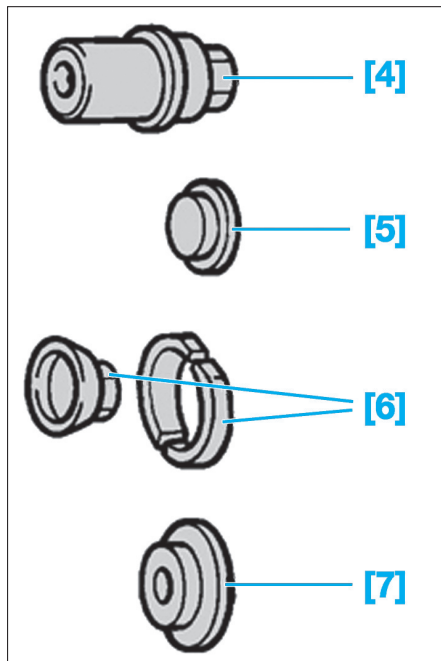

Fig. 31
- [4]. Ecrou (Ref. 9501-T.C1) (Fig.31).